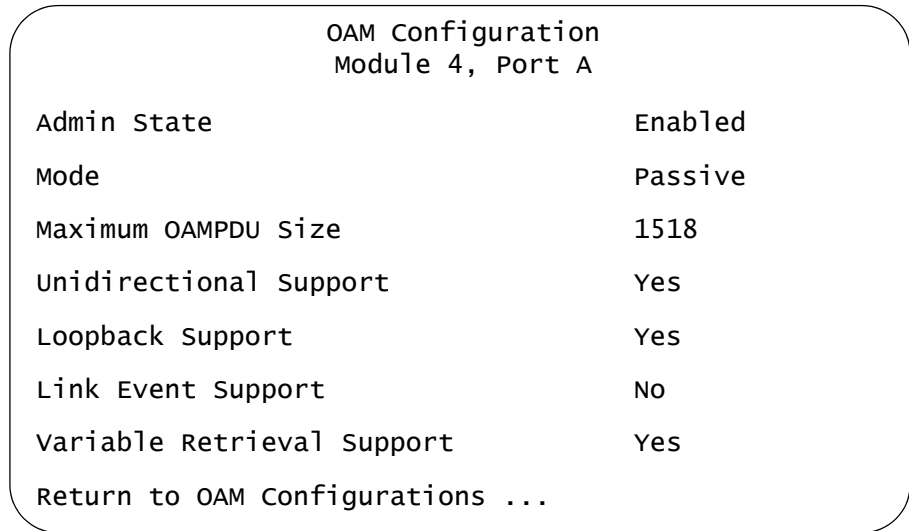

Figure 106. OAM Configuration Submenu
- From the OAM Configuration Menu, select **OAM Configuration** to display the OAM Configuration submenu, shown in Figure 106.